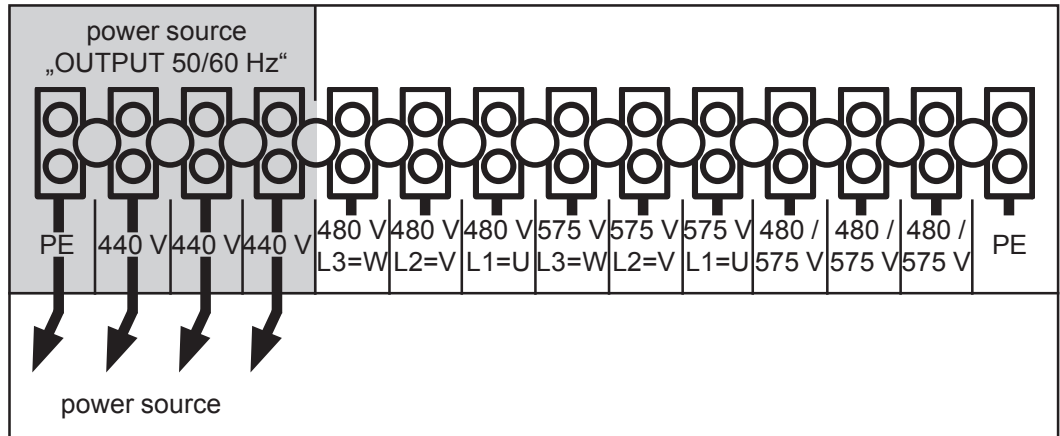

Fig.7 Connect phase conductors of the power source connection cable
The autotransformers TPS 2700 / TPS 5000 and TIME 5000 make it possible for the digital power source to be run on mains voltages of 480 V and 575 V. The transformed voltage of 440 V for the power source is delivered to the terminal rail for the power source connection cable (fig.7).
1. Connect phase conductors and earth conductor (PE-green) to the connections power source „OUTPUT 50 / 60 Hz“ (Fig.7).
5. Check the output voltage at the clamping screws „OUTPUT 50/60 Hz“ by means of an appropriate measuring instrument (Fig.7)